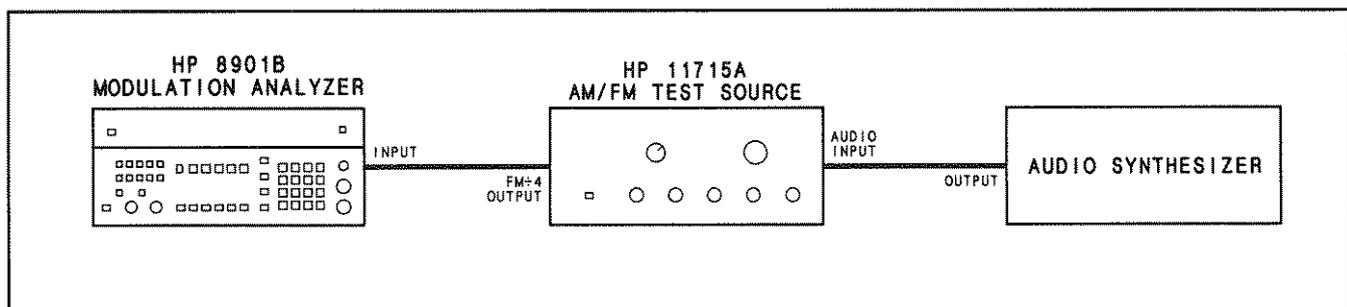

Figure 5-6. ΦM Sensitivity Adjustment Test Setup
1. Connect the equipment as shown in Figure 5-6. (The AM/FM test source output can be connected either to a sensor module or directly to the Modulation Analyzer's INPUT.)